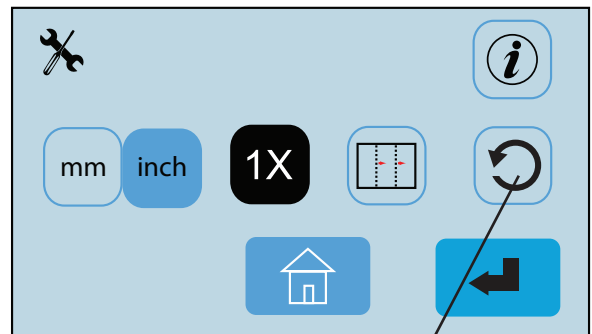

Fig. 45
1. From the Operator Settings screen press the Default Settings icon  (Fig. 45). A confirmation screen will come up. Press the green box with the check to confirm or the red box with the X to cancel the setting (Fig. 46).